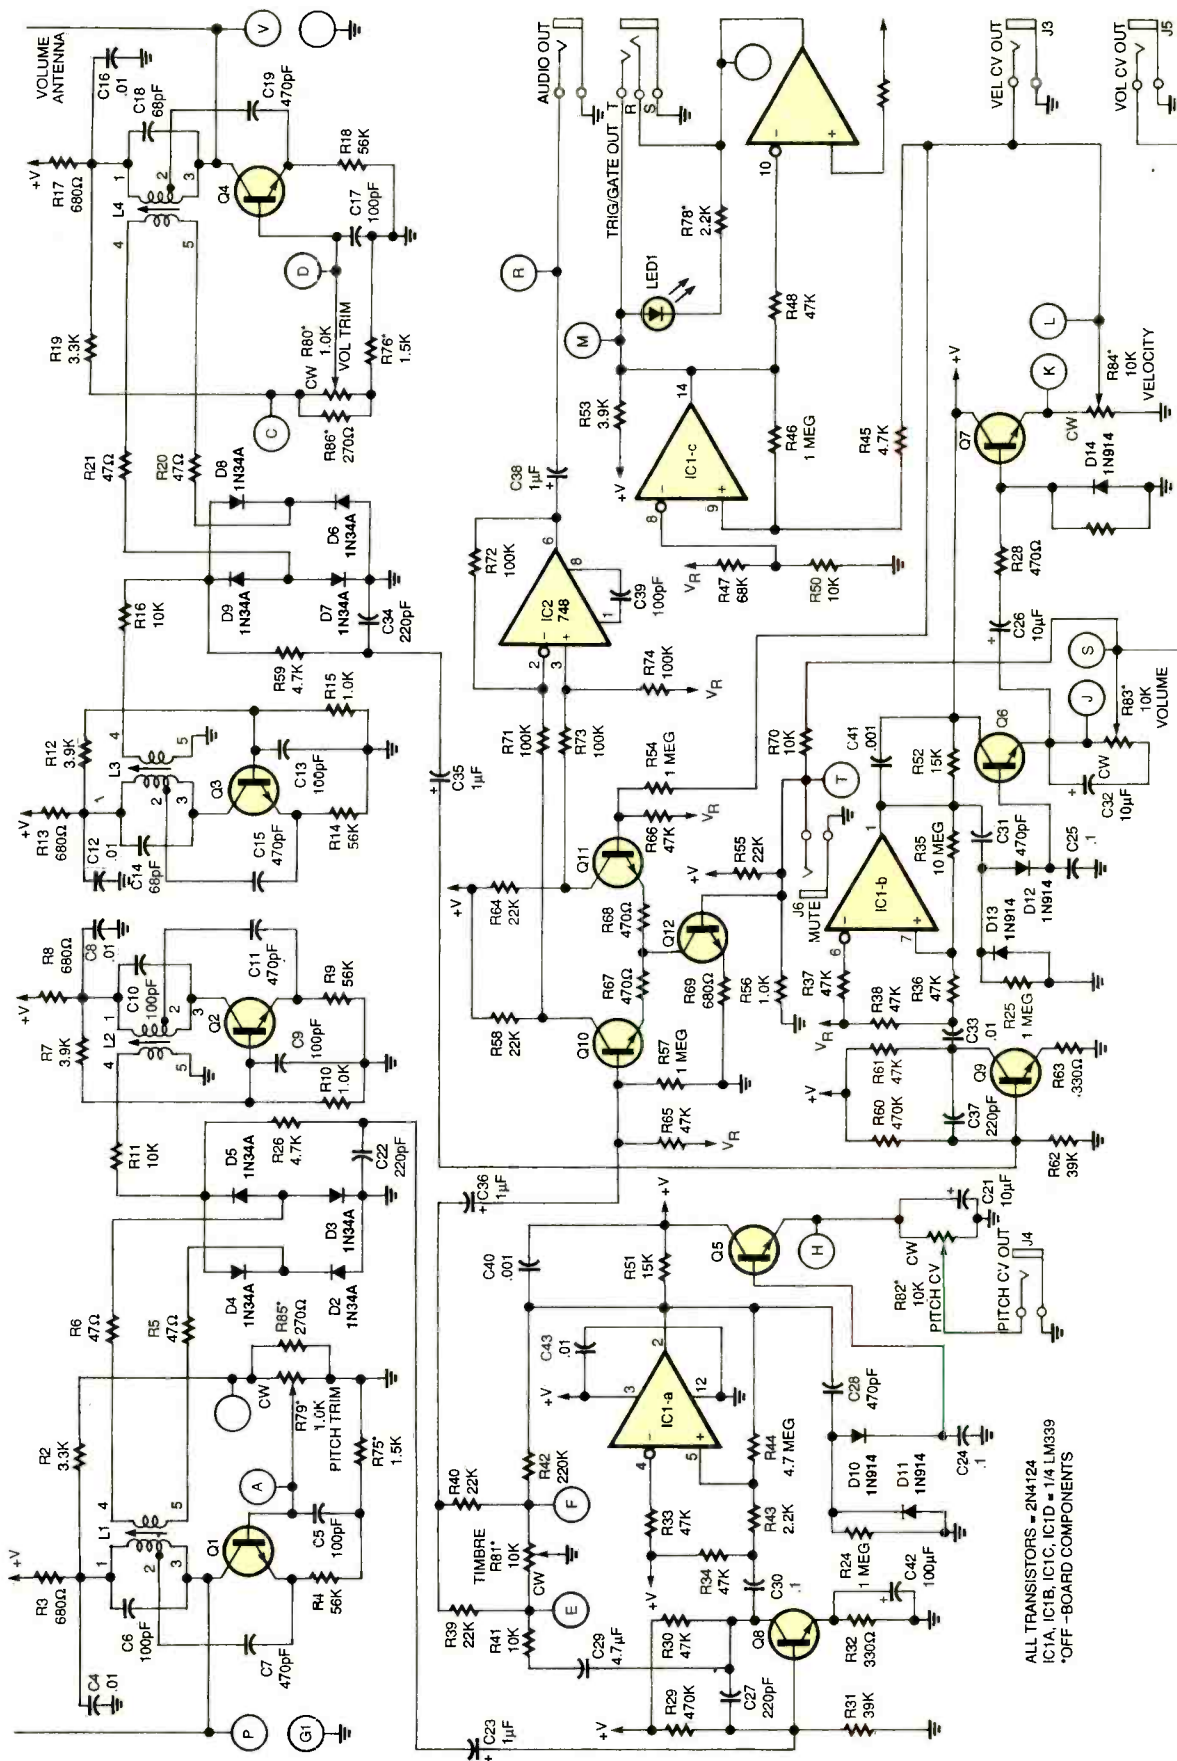
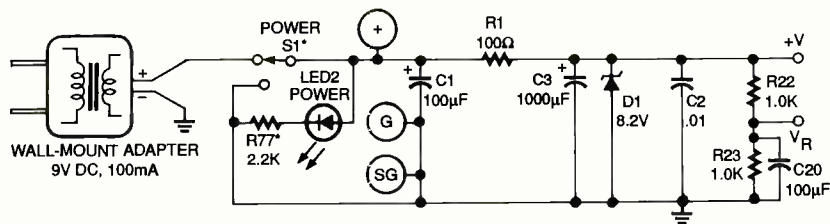

Fig. 1. This is the main Theremax schematic. All components marked with an asterisk mount off the circuit board.
Fig. 2. A 9-volt DC adapter provides power for the power supply shown above.
**Design Analysis.** The main Theremax schematic is shown in Fig. 1. Its power-supply section is shown in Fig. 2. At the heart of the circuitry are four oscillators, two of which are mixed to produce the pitch signal and two of which are mixed to produce the volume-control signal. If it occurs to you that one oscillator could serve as reference for both pitch and volume sensing, you have a good designer's instincts—it would be more economical. Unfortunately, multiple oscillators operating near the same frequency have a tendency to "pull" and lock to exactly the same frequency—just like the swing of multiple compound pendulums will tend to synchronize. It's not too difficult to minimize this tendency in a single pair of oscillators by physically isolating them from one another, putting guard bands around them on a circuit board, and decoupling them from their common power supply. However, doing so for three oscillators, all heading for essentially the same frequency, is considerably more difficult.